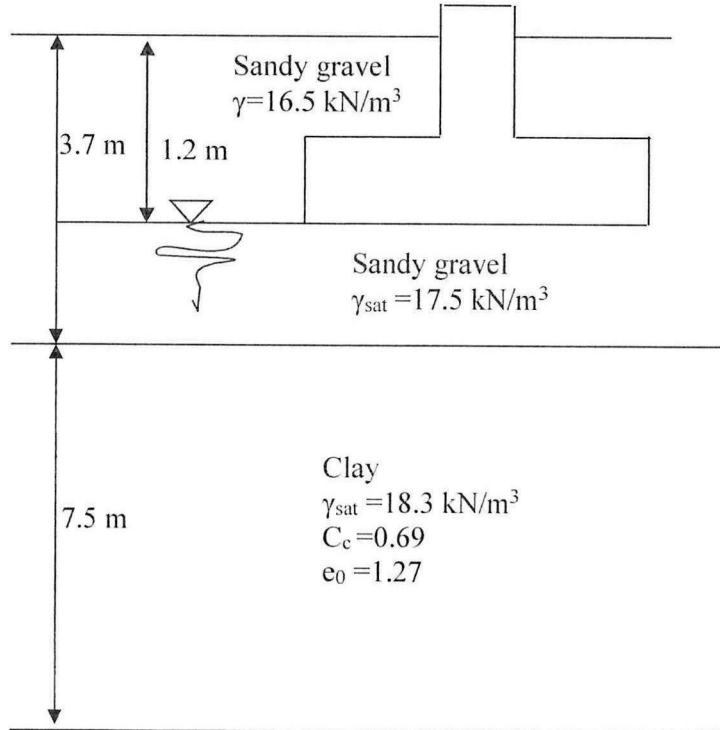

FIGURE Q3(b): Load on raft footing
- Q2** (a) There are two types of soil sampling that can be obtained during subsurface exploration. Explain in detail the types of soil sampling and give **TWO (2)** examples of laboratory test for each type of soil sampling. (8 marks)
- (b) A square footing is 2.5 m x 2.5 m in size with depth of foundation of 1.2 m. The footing is buried in 3.7 m thick of sandy gravel layer that has unit weight of 16.5 kN/m^3 and laying on top of 7.5 m thick of clay layer with unit weight of 18.3 kN/m^3 and there is bed rock underneath this clay layer. Water table is exactly at the base of footing as shown in **Figure Q3(b)**. Load on raft footing is 2000 kN, initial void ratio of clay layer, $e = 1.27$, compression index, $C_c = 0.69$.